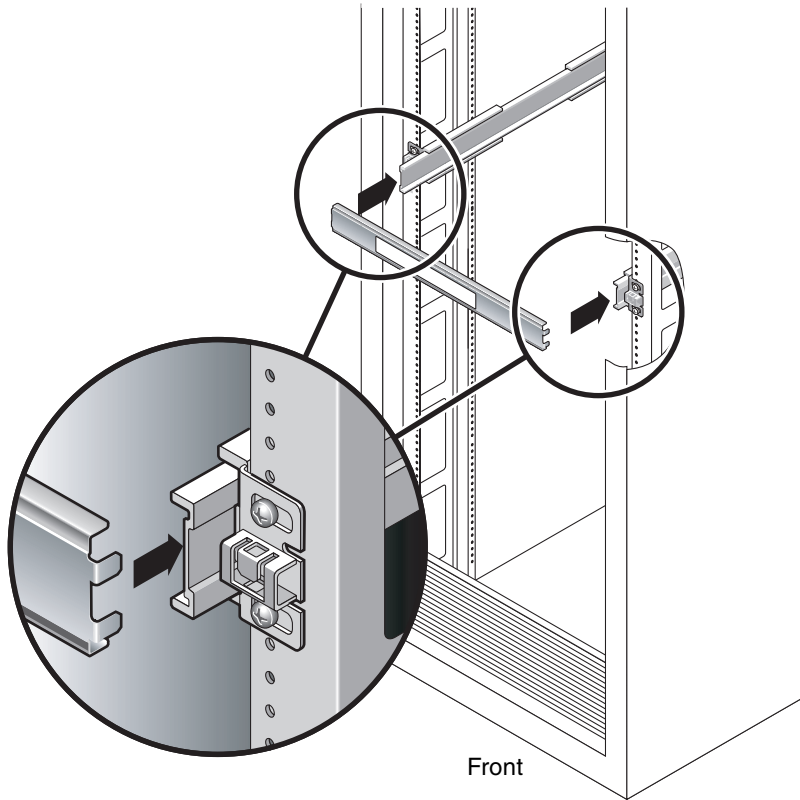

FIGURE 2-7 Using the Slide Rail Spacing Tool to Adjust the Distance Between the Slide Rails
- a. At the rear of the rack, insert the left side of the tool into slots at the end of the middle section on the left slide rail (FIGURE 2-7).